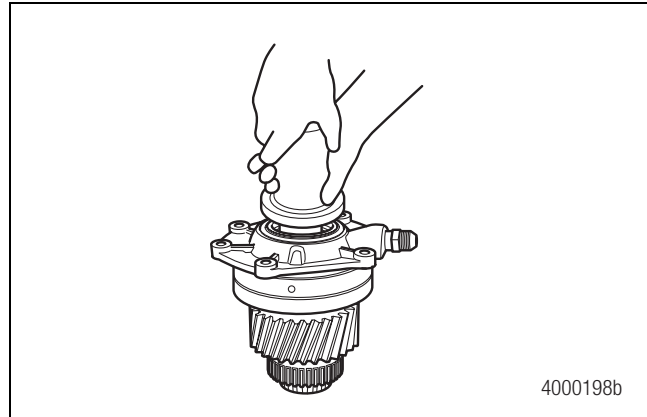

Figure 8
5. Use seal driver 2728T1 to install the seal into the input cage. Figure 8.